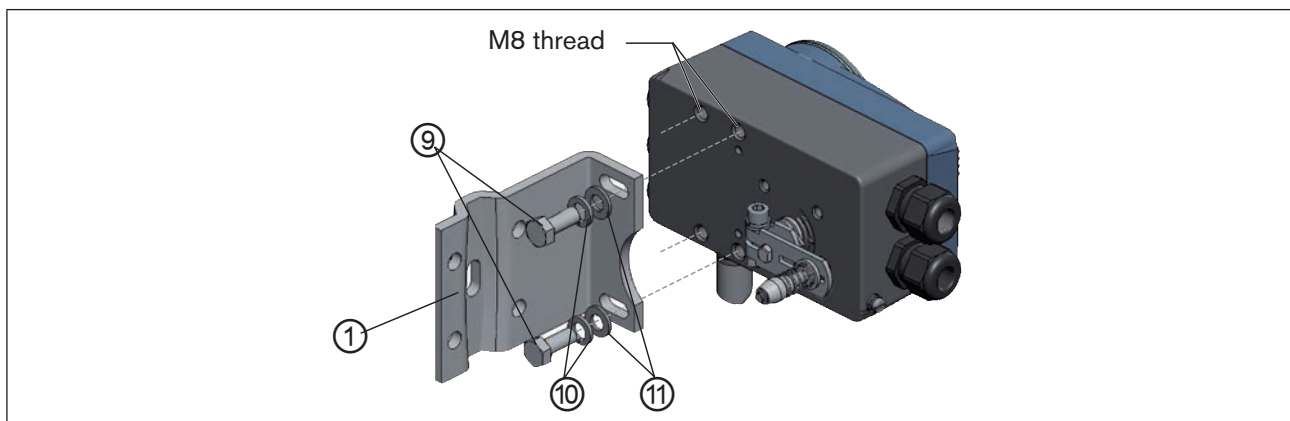

Figure 24: Attaching mounting bracket
→ Attach mounting bracket ① to the back of the positioner with hexagon bolts ⑨, circlip ⑩ and washers ⑪ (see “Figure 24”).